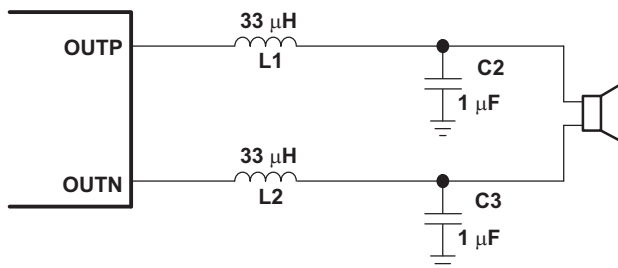
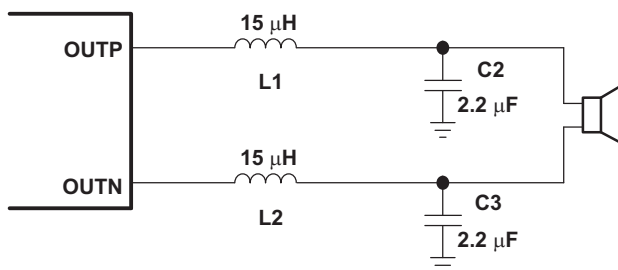

Figure 27. Typical LC Output Filter, Cutoff Frequency of 28 kHz, Speaker Impedance = 8  $\Omega$
Figure 28. Typical LC Output Filter, Cutoff Frequency of 28 kHz, Speaker Impedance = 4  $\Omega$
Using the LC filter in Figure 27, the TPA3101D2 EVM passed the FCC Part 15 Class B radiated emissions test with 21 inch speaker wires. Quasi-peak measurements were taken for the 4 standard test configurations, and the TPA3101D2 EVM passed with at least 14-dB margin. A plot of the peak measurement for the horizontal rear configuration is shown in Figure 30.
- Output filter—The ferrite EMI filter (Figure 29) should be placed as close to the output terminals as possible for the best EMI performance. The LC filter (Figure 27 and Figure 28) should be placed close to the outputs. The capacitors used in both the ferrite and LC filters should be grounded to power ground. If both filters are used, the LC filter should be placed first, following the outputs.